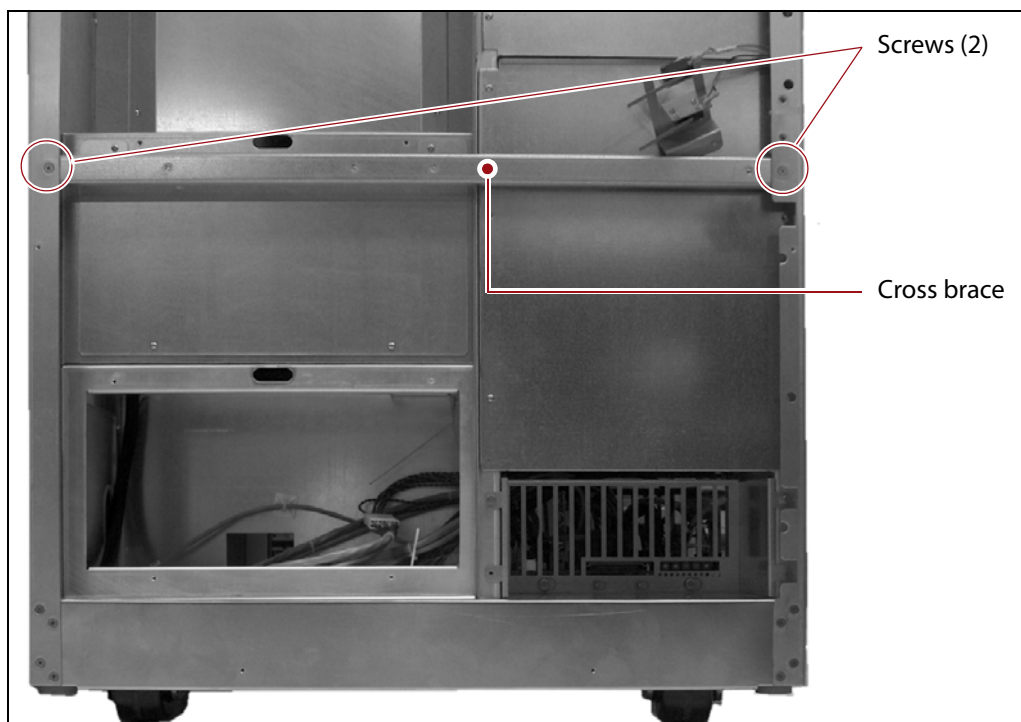

Figure 63 Install the frame cross brace.
1. Orient the frame cross-brace with the end that has the two threaded holes close together to the right and position it as shown in Figure 63.